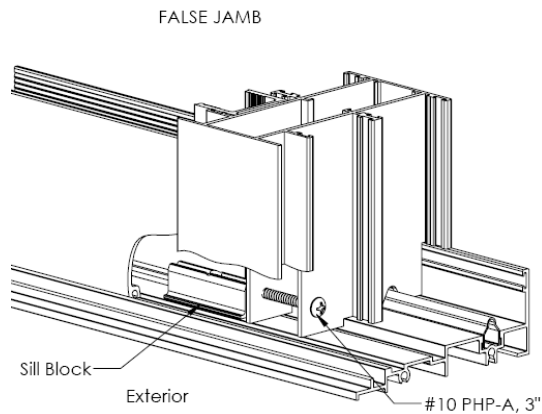
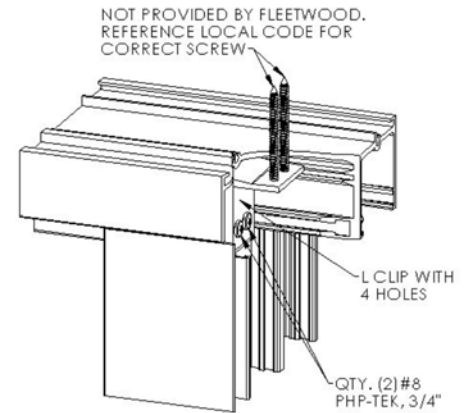

Figure 22:
Figure 23:
- Attach the false jamb to the sill block using a #10 PHP-A, 3" screw (Figure 22).
- Attach the "L" Bracket to the top of the False Jamb using (2) #8 x 3/4" PHP TEK screws.
- Attach the "L" Bracket through the Head of the Frame, into the Header using the appropriate size screw required by local code (not by Fleetwood) (Figure 23).